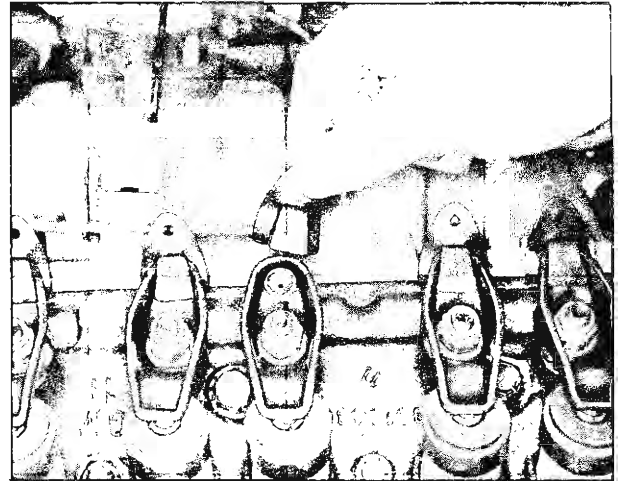

Fig. 24—Oil Deflector Clips Installed
**NOTE:** Oil deflector clips are commercially available (fig. 24).